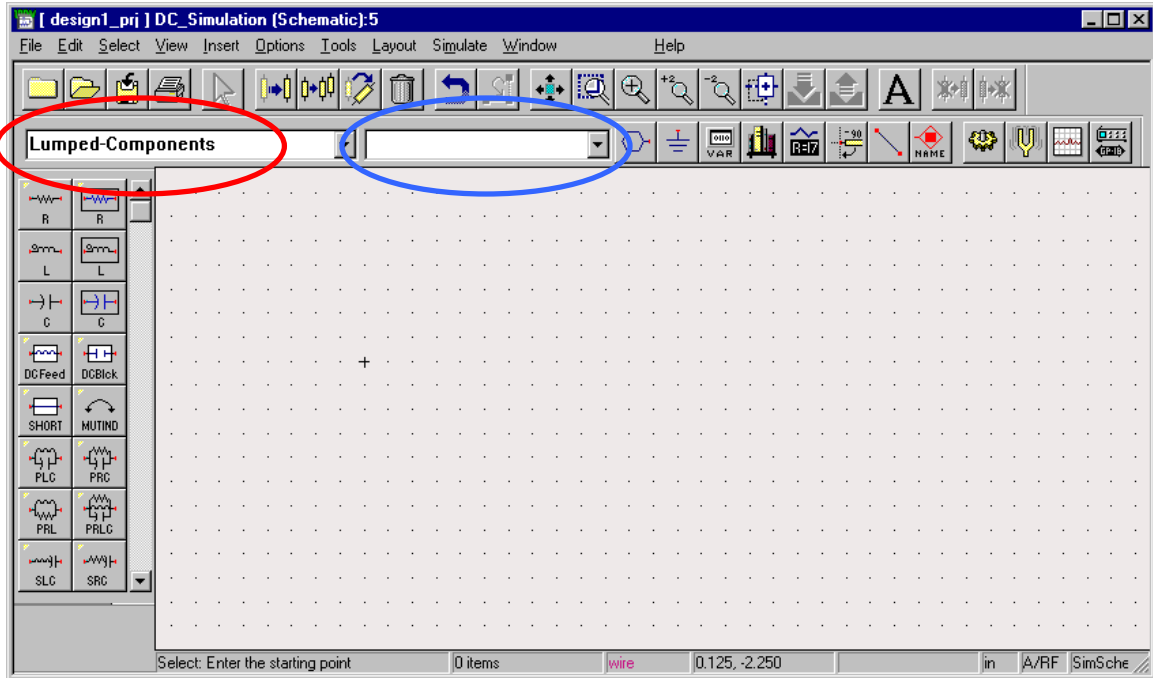

Figure 5: Schematic window with the “DC\_Simulation” schematic opened
7. When you click “OK”, the schematic window in Figure 5 below should open. Note the title bar that tells us that we are editing a schematic called “DC\_Simulation”. You can save the schematic by pressing Ctrl-S or **File->Save Design**. The box circled in red allows us to choose which component tool bar (library) will be displayed. Currently the “Lumped Components” library is selected and you should see a vertical toolbar with various lumped components to choose from. Place a resistor on your schematic by clicking on the resistor icon (w/o a box around it). When you move the cursor over the drawing part of the schematic window, the ghost of the resistor will be shown. Place the part on your schematic with a left mouse click. Note that you are in “place component” mode and you can place as many resistors as you need. Right now, just place one more resistor. Get out of “place component” mode by pressing the “Esc” key or by right clicking with the mouse and choosing **End Command**.